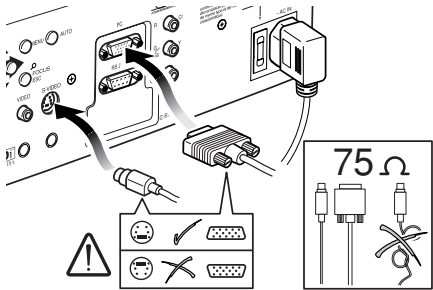

Fig. 15
- With exception of coaxial RCA/Phono type connectors, always double-check that the plug is inserted the correct way round to avoid damaging the plugs or the sockets on the projector (Fig. 15)..